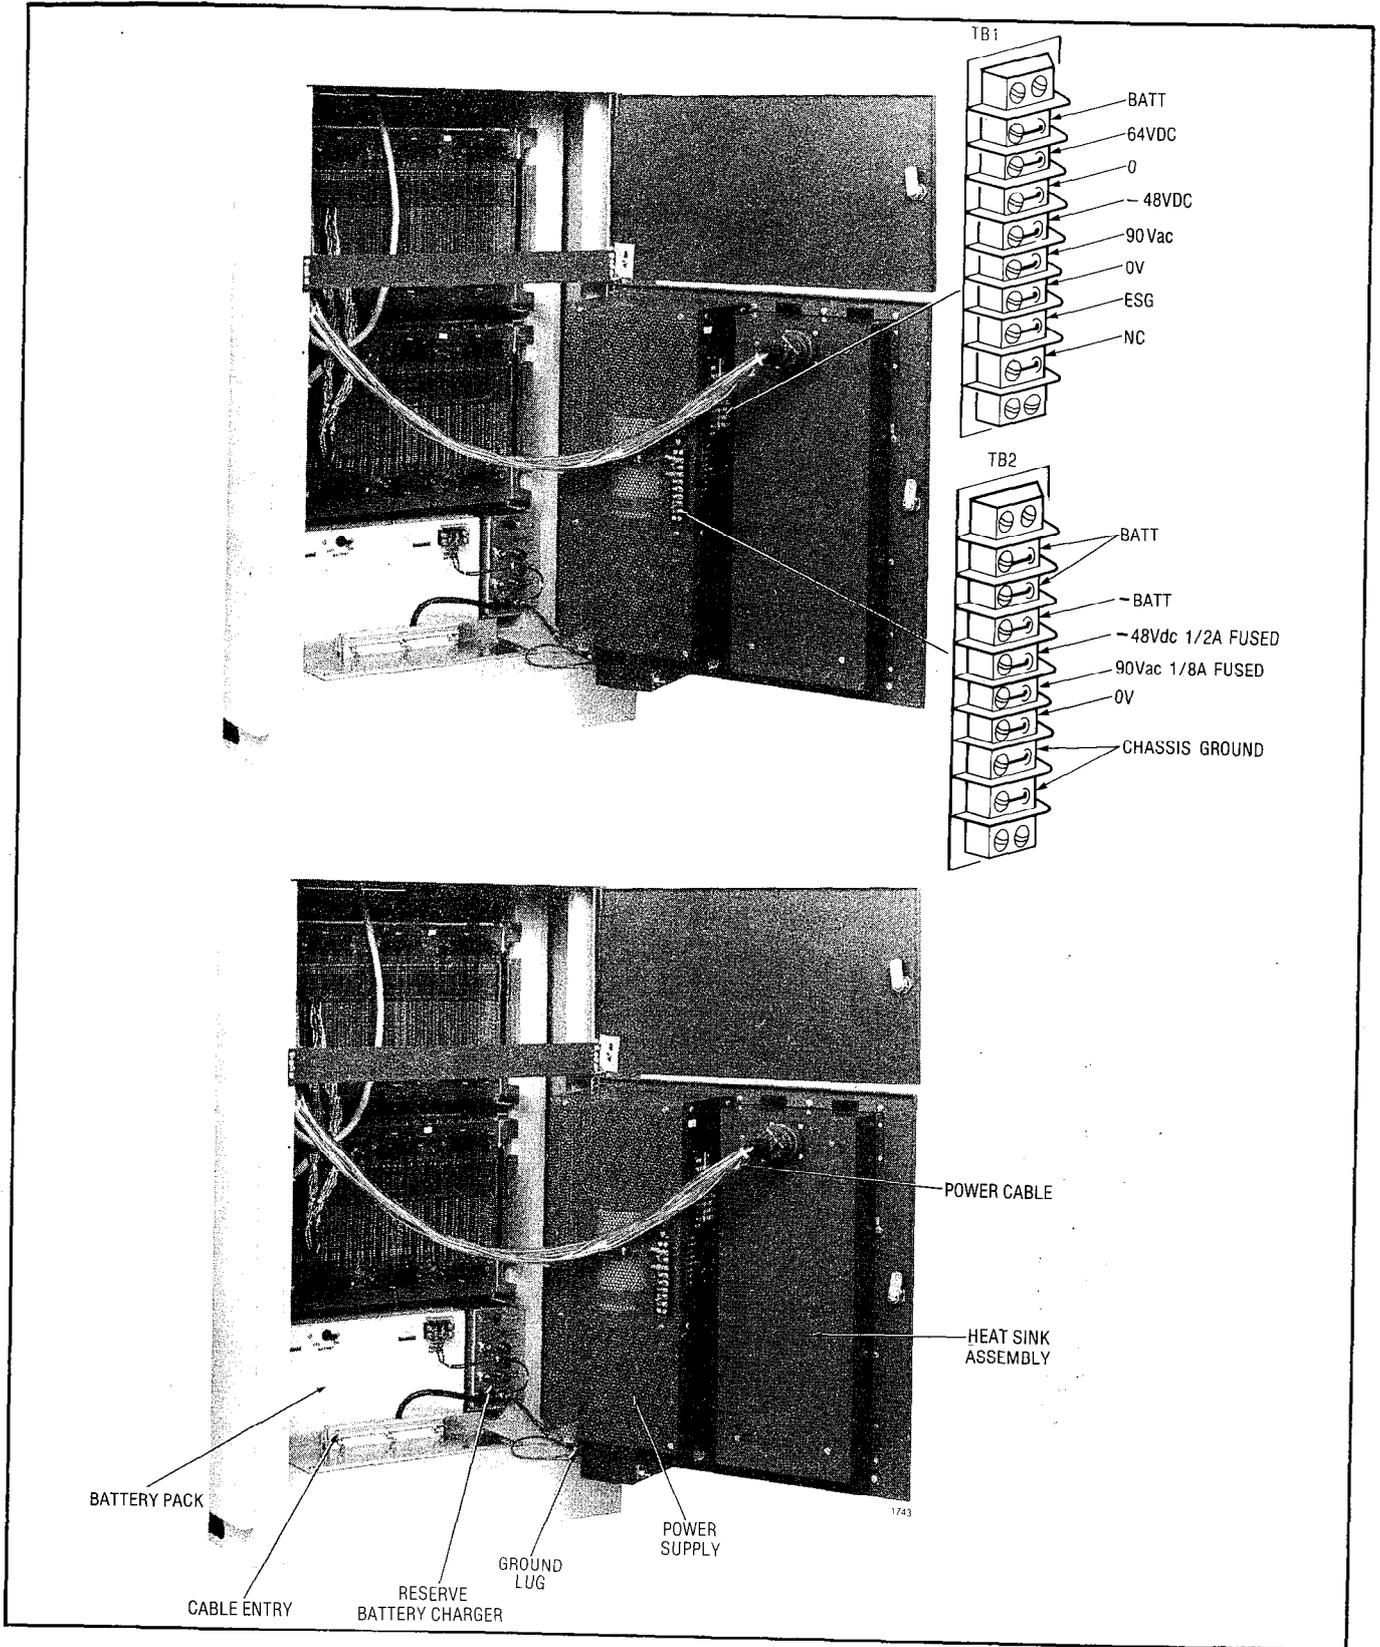
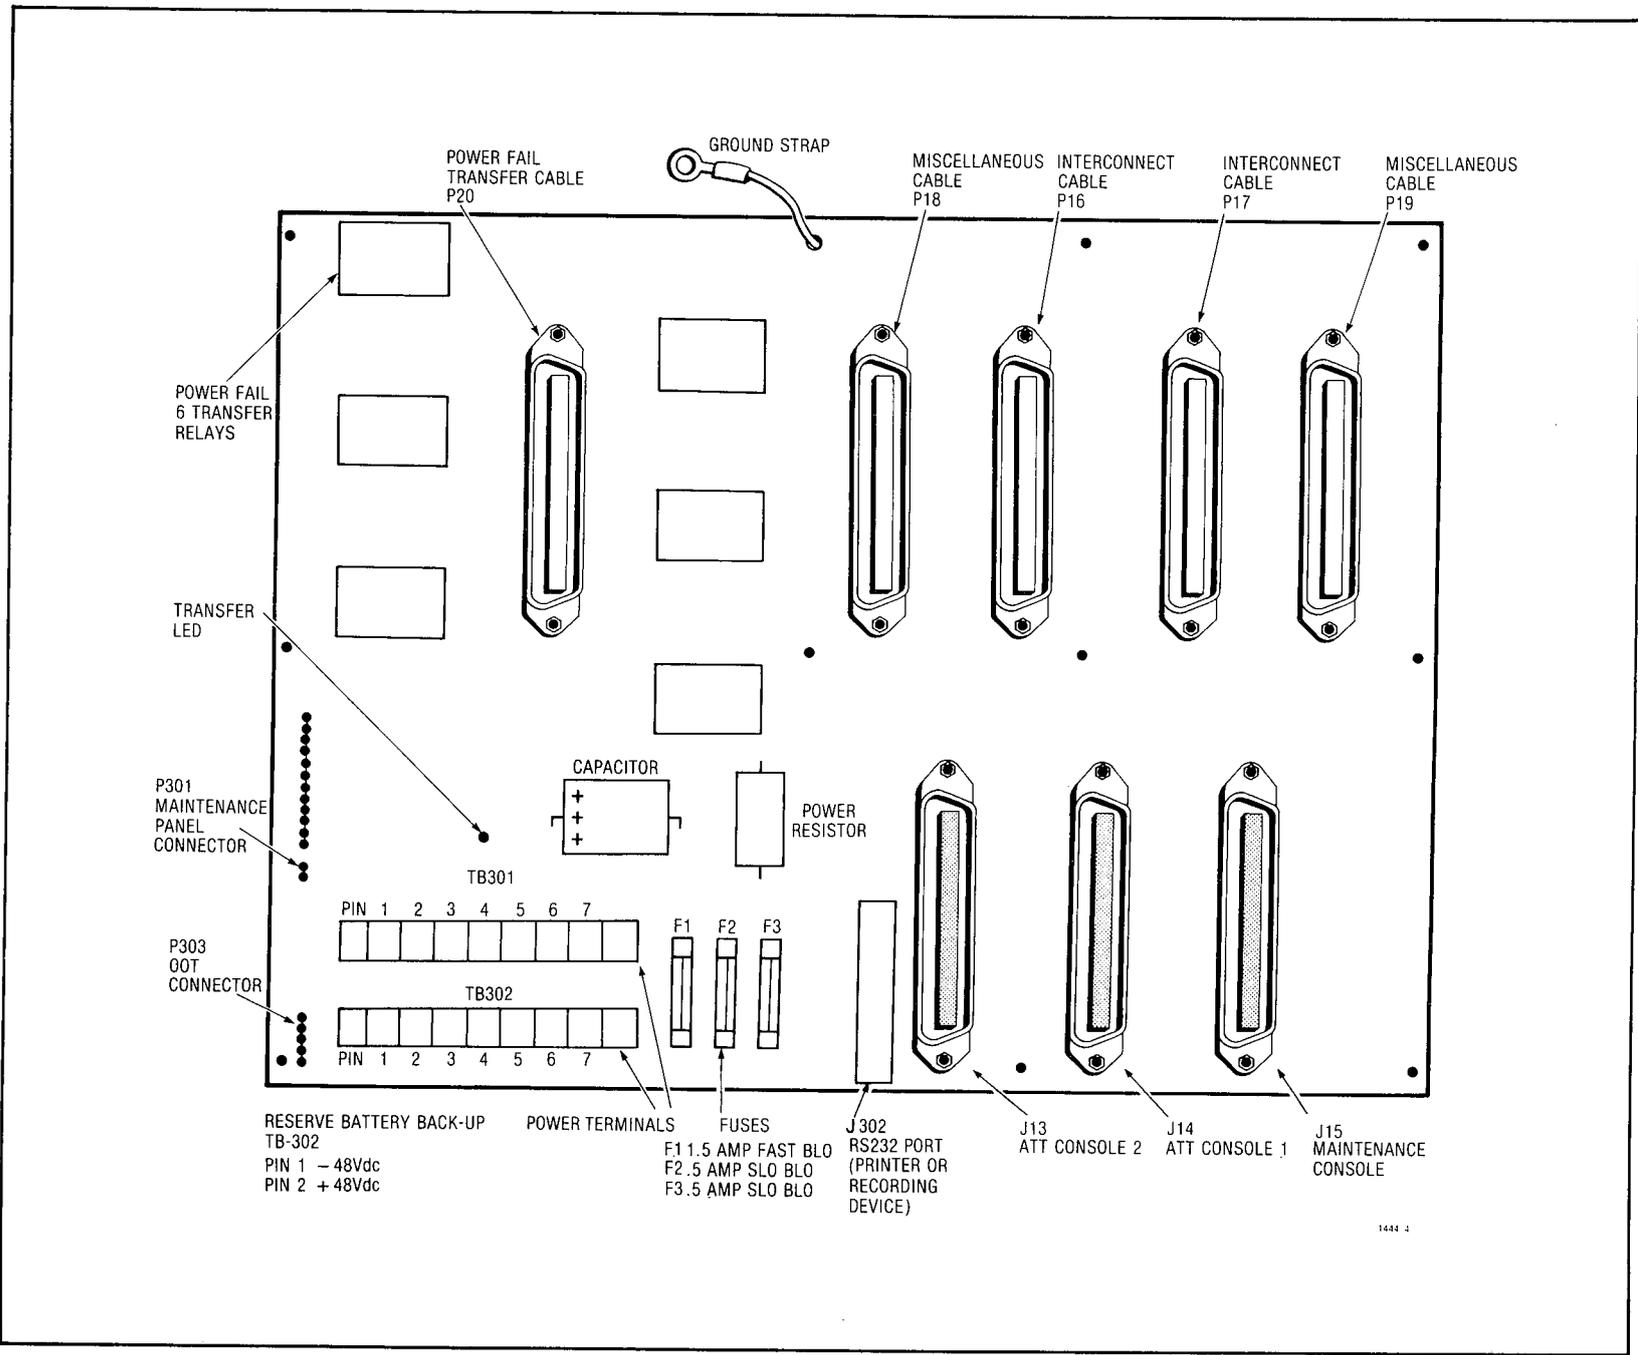

Fig. 6-2 SX-200 Power Supply
Fig. 6-3 SX-100 Interconnect Card
6. The SX-100/SX-200 power supplies form an integral part of the equipment cabinets. The SX-100 power supply is housed immediately to the right hand side (front view) of the equipment shelf (Fig. 6-1). In the SX-200 the power supply is housed in a metal cabinet forming the lower rear door of the system (Fig. 6-2). Both supplies are fully R.F. filtered and may be operated from either AC or DC inputs to produce multiple DC output rails as well as ringing voltage. This part will discuss the power supplies in 4 parts. There is also a section on the Reserve Battery Back-Up.
6.02 Reserve Battery Backup and Charger. The SX-100 and SX-200 both accept a - 48Vdc source fed to the terminals indicated on the terminal blocks shown in Figs. 6-2, 6-3. The installation of the reserve supply in the systems is described in MITL9105/9110-98-200. A pictorial view of the power supply is shown in Figs. 6-2 and 6-4. The MITEL reserve battery and charger (MITL part number 9110-014) has an OOT circuit which may be used to alert the attendant that the system is on reserve battery power. The indicator is a dry relay contact that may be used to ring an external alarm or it may be wired to a system port as a Contact Monitor.
- The SX-100 has the same backplane as the SX-200 hence, the same fusing appears on the backplane. There are three fuses on the interconnect card for; user 90Vac, user -48Vdc and the console -48Vdc (Fig. 6-3). The front panel of the power supply has two circuit breakers; one is for the DC battery supply, the other is for the AC supply (Fig. 6-1).
on the charger unit) for the battery protection. All reserve battery and charger connections are shown in (Fig. 6-2 and Fig. 6-3). Installation of the reserve battery back-up is described in MITL9105/9110-98-200.
| Reserve battery backup not holding the system up? | 1. Are all reserve battery backup connections as per Figs. 6-2 and 6-3? | X | X | Make connections as shown in Fig. 6-2 and 6-1. Give batteries time to charge (24 hours) |